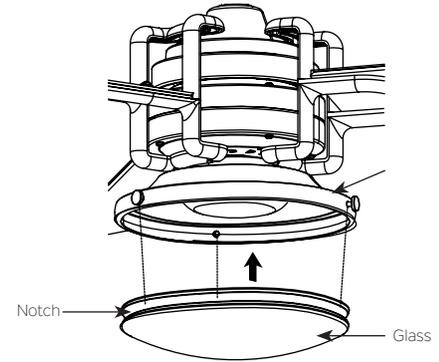

Fig. 23
Step 4. Lift the globe allowing it against the switch housing, ensure the screw is placed inside the glass notch. (Fig. 23)